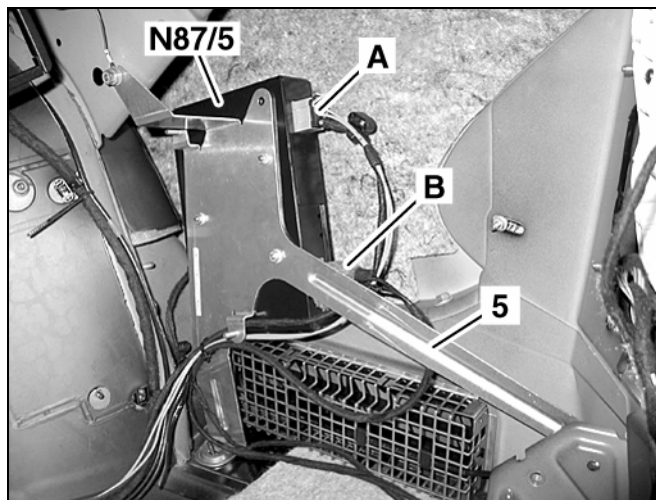

Figure 11
7. Connect power supply connector (A, Figure 11) and antenna connectors (B) to satellite control module (N87/5).